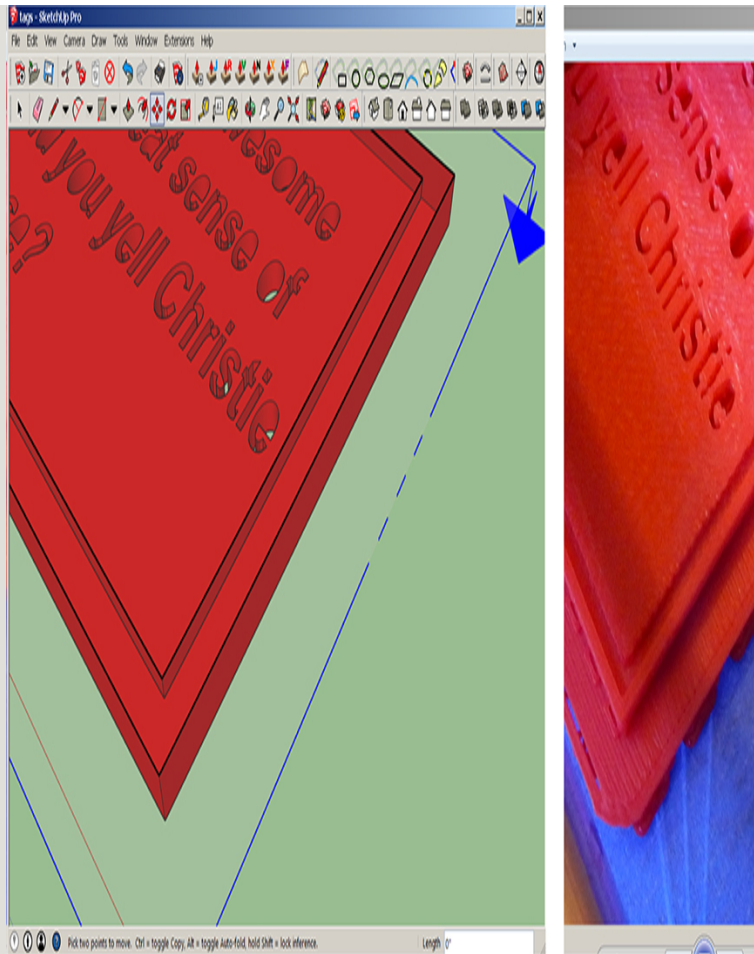

Figure 6-15 The SketchUp model (*left*) and the printed model (*right*). Note the hollow border.
- **Infill.** This is the amount, or density, of material. You can adjust the slicer settings to fill between 0 and 100 percent. A 0 percent infill creates a hollow model. The left graphic in Figure 6-15 shows a slice through the luggage tag. Note the hollow between the border walls. The right graphic shows the border while being printed.